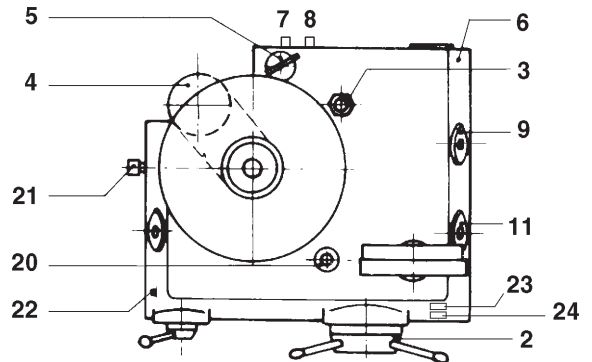

Fig. 3a
- Switch on the electrical drive (22).
- By turning the star handle adjust the pressure until the upper edge of the base plate (14) is exactly covering the lower marking line on the mirror (Fig. 3b) respectively until the marking on the ring weight base plate (14a) is same level with the upper marking line of the mirror (Fig. 3a).
- For pressure relief open valve "Vordruck" (9).
- For pressure relief down to "0 bar" the admission pressure has to be relieved, too. Therefore switch the change-over valve (18) to "Entlüften" (vent).